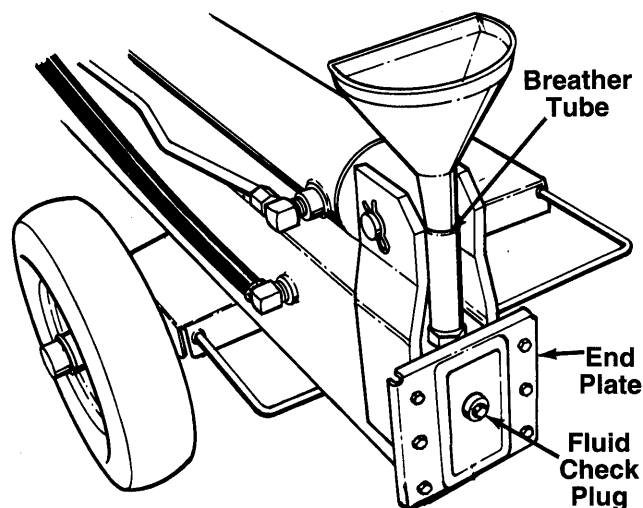

FIGURE 8.
- a. With the log splitter on a level surface remove the cap from the breather tube. See figure 8. Remove the fluid check plug from the end plate.
2. Remove the fluid check plug. See figure 8. If fluid starts to come out of the hole, fluid level is correct. If it does not, fill reservoir as instructed in step 4 of the previous section.